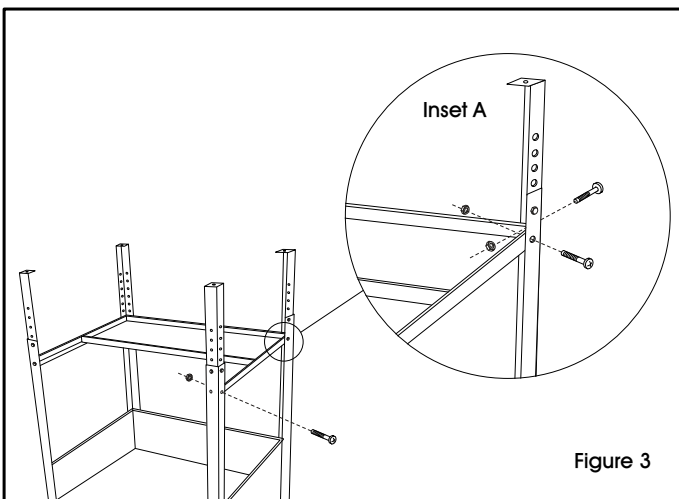

Figure 3
4. Attach bottom shelf to legs. Bolt shelf to legs using 6 large bolts (including 4 large leg bolts, 2 large bolts) and 6 large nuts. (See Figure 3)
Fixez la tablette inférieure aux pattes. Boulonnez la tablette aux pattes en utilisant 6 grands boulons (incluant 4 grands boulons pour patte, 2 grands boulons) et 6 grands écrous. (Voir la figure 3)
NOTE: Insert bolts through legs, adjustable feet, and shelf. (See Figure 3, Inset A)